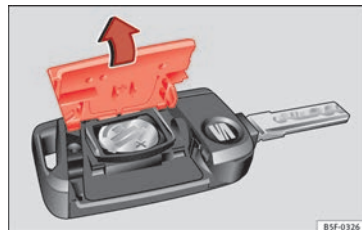

Fig. 132 Vehicle key: opening the battery compartment
- Remove the cover from the back of the vehicle key » Fig. 132 in the direction of the arrow » !.
- Fit the cover as shown » Fig. 132, pressing it onto the vehicle key casing in the opposite direction to that shown by the arrow until it clicks into place.